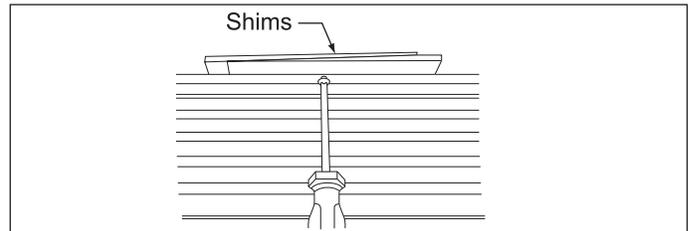

**Figure 2-15.**
3. Level the top of the trim frame using a carpenter's level. (See Figure 2-15).